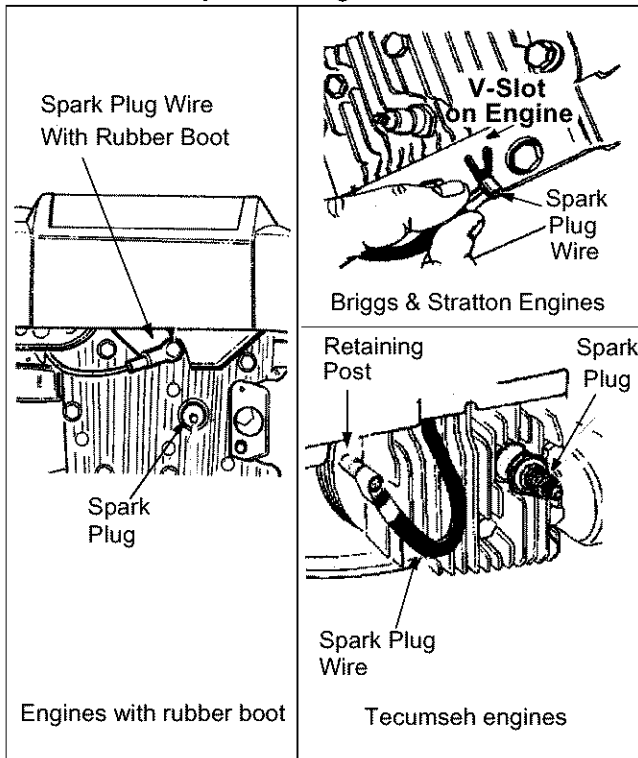

Figure 1
- Before setting up your lawn mower, disconnect spark plug wire from the spark plug, and ground it against the engine. See Figure 1 .
- In the case of lawn mowers where engine is equipped with a rubber boot, attach rubber boot to a bolt on the engine to ground. See Figure 1.